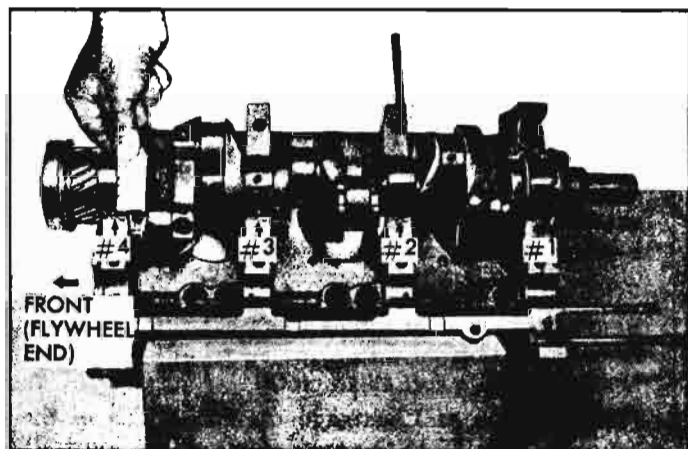

Fig. 6A-83—Measuring Plastigage on Crankcase Journals
8. Check the end play by forcing the crankshaft to its extreme front position. Check with a dial indicator as shown in Figure 6A-84. This clearance should be from .002" to .006".